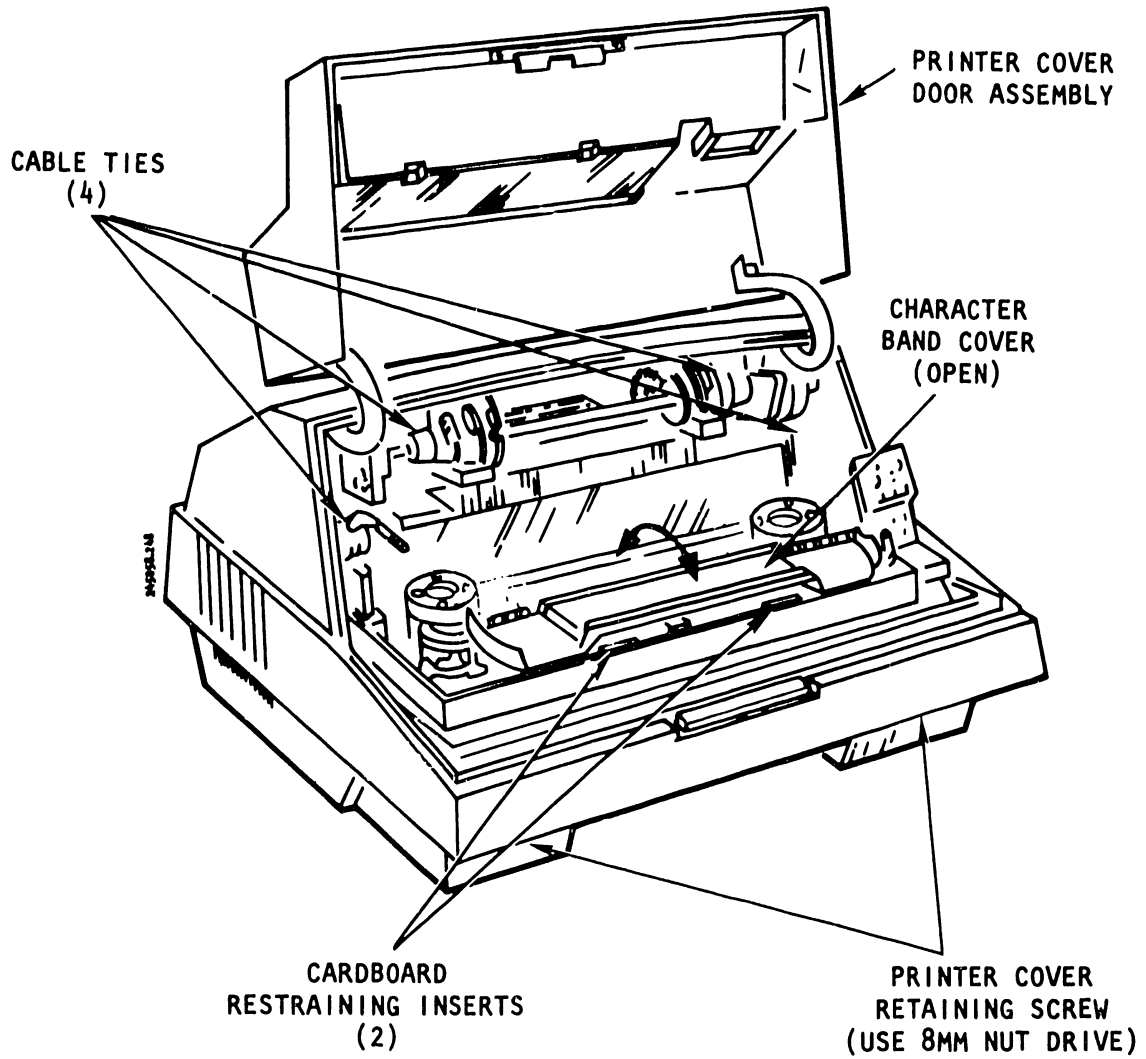

Figure 2-3. Printer Shipping Hardware
- e. Lift the printer cover door. Remove the two cable ties that secure the paper support assembly and the cable ties that fasten the hammer bank latch (see figure 2-3).
- f. Remove the two cardboard band-casting restraining inserts from the inside front of the printer (see figure 2-3).